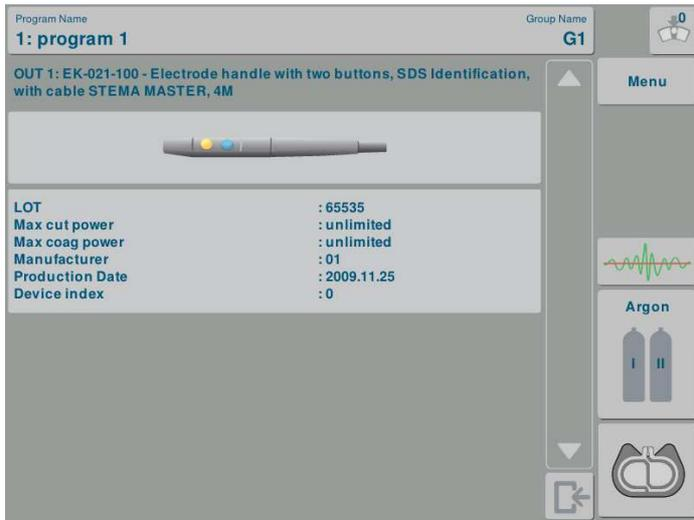

Figure 12. Data of an instrument connected to a socket with the SDS system.
Fig. 12 shows data on the instrument connected to the system. To display these data, touch the instrument detection status window panel (**Fig. 3, item 9**).